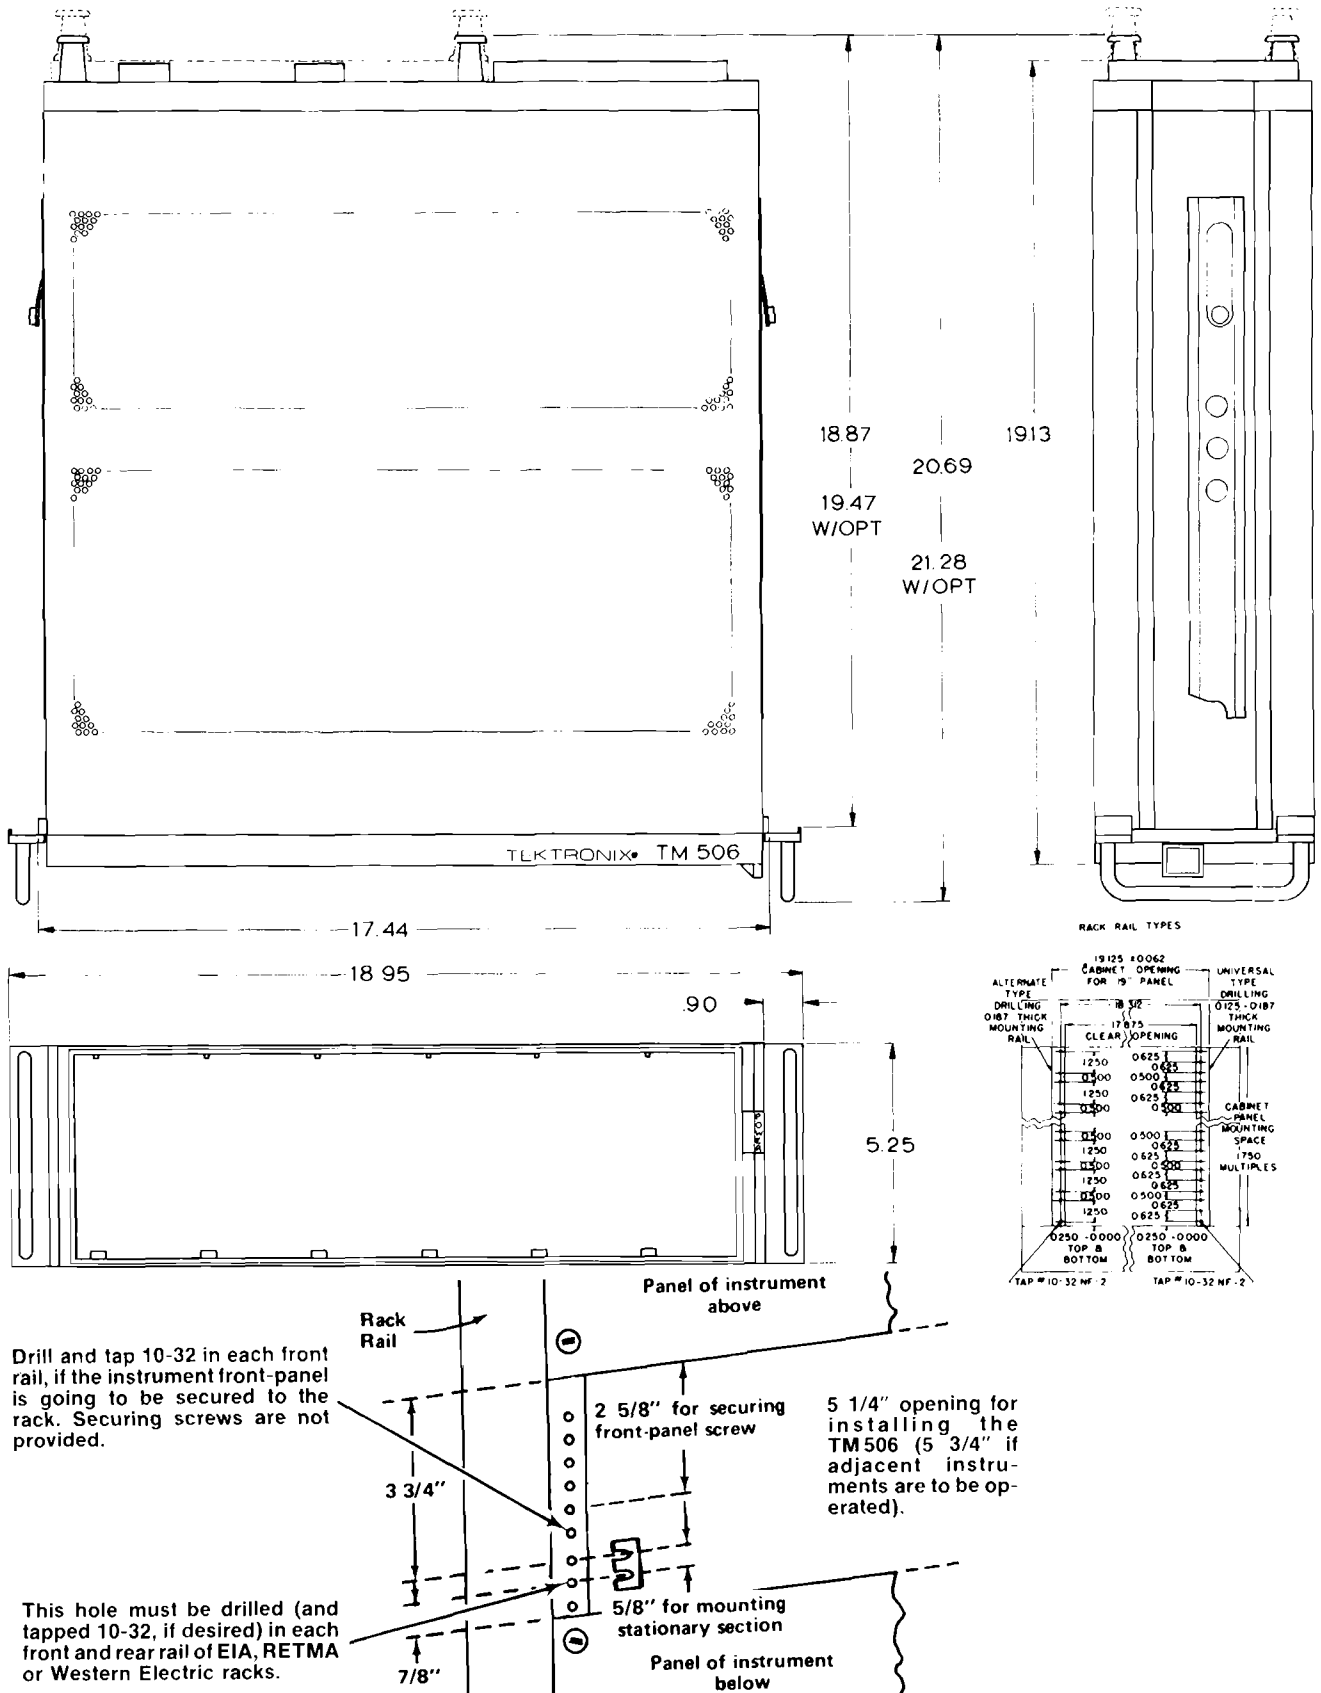

Fig. 0-2. Dimensional diagram.
1. To mount the instrument directly above or below another instrument in a cabinet rack, select the appropriate holes in the front rack rails for the stationary sections, using Fig. 0-2 as a guide.
To secure the instrument front-panel to the rack, the rack must either have universal hole spacing, or a hole must be drilled and tapped for a 10-32 screw, see Fig. 0-2. Using the hardware (not furnished) indicated in Fig. 0-2, secure the TM 506 to the front rails of the rack.